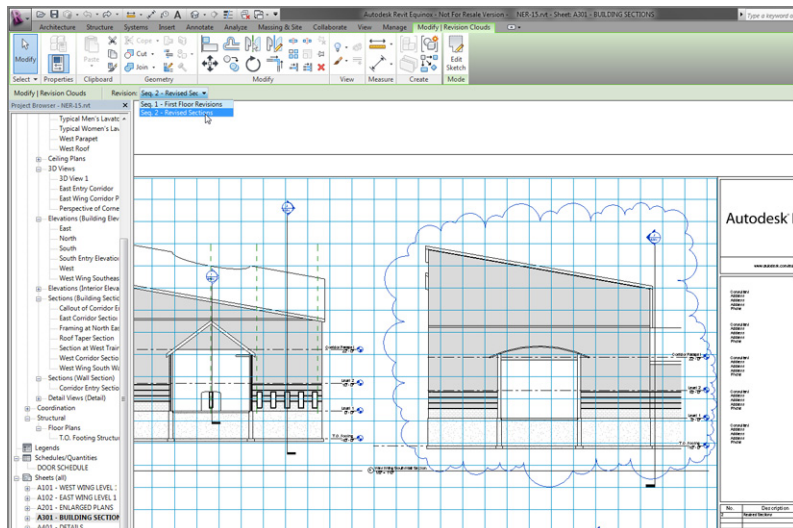

FIGURE 14.21: By selecting the revision cloud, you can specify the sequence from the Options bar.
14. On the Options bar, make sure Seq. 2 - Revised Sections is selected, as shown in Figure 14.21.